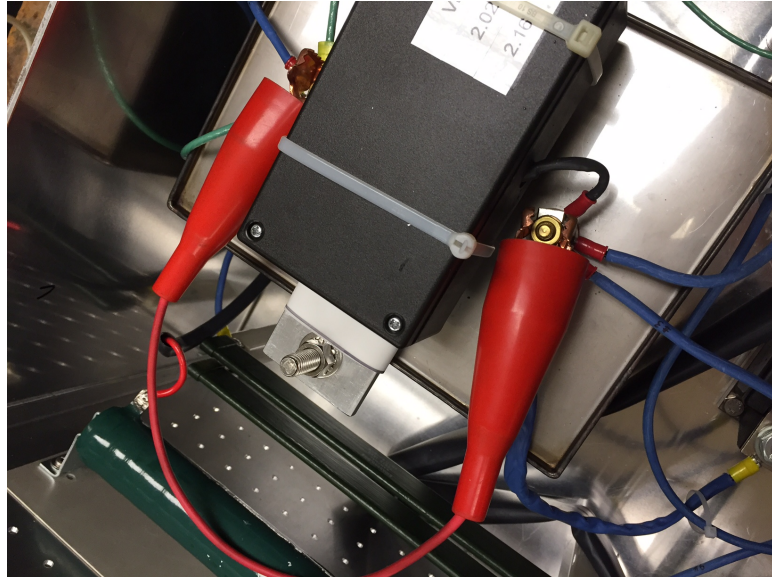

Figure 3: Capacitor with Jumper
6.1.17 Attach shorting jumper cable between the two terminals of the capacitor in the capacitor box (see Figure 3 for reference).